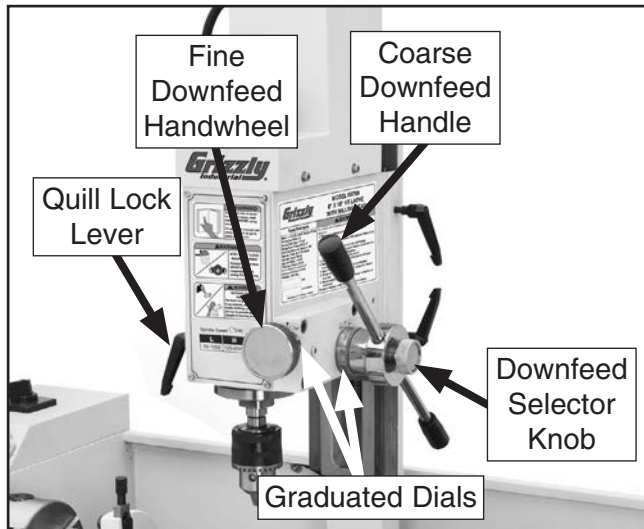

Figure 107. Spindle controls.
The Model G0769 features two different types of spindle downfeed controls: coarse and fine, as shown in **Figure 107**.
Coarse downfeed is typically used for drilling applications. Rotate either of the coarse downfeed handles (see **Figure 107**) to lower the spindle, and an internal coil spring helps raise the spindle back to the top position when you stop applying downward pressure on the handle.
Fine downfeed is typically used for milling applications, because the spindle only moves up or down when the fine downfeed handwheel (see **Figure 107**) is rotated (there is no automatic spindle return to the top position, as with the coarse downfeed controls). This allows the spindle height to be locked in place for precise Z-axis positioning of a cutter or end-mill when milling a flat surface across the face of a workpiece. In order to ensure the milled surface remains flat, the spindle height cannot move until the entire milling operation is complete.
2. Tighten downfeed selector knob (see **Figure 107**) to engage fine downfeed handwheel.